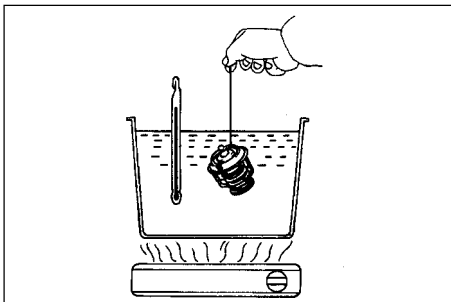
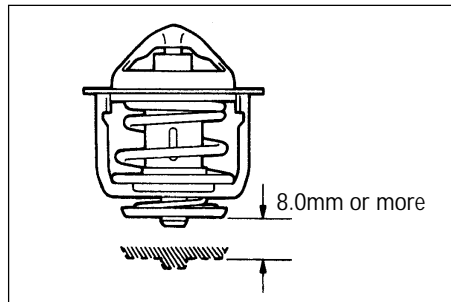

Figure 5-3
Figure 5-4
- (3) Check the lift of the valve (see Figure 5-3 and Figure 5-4).